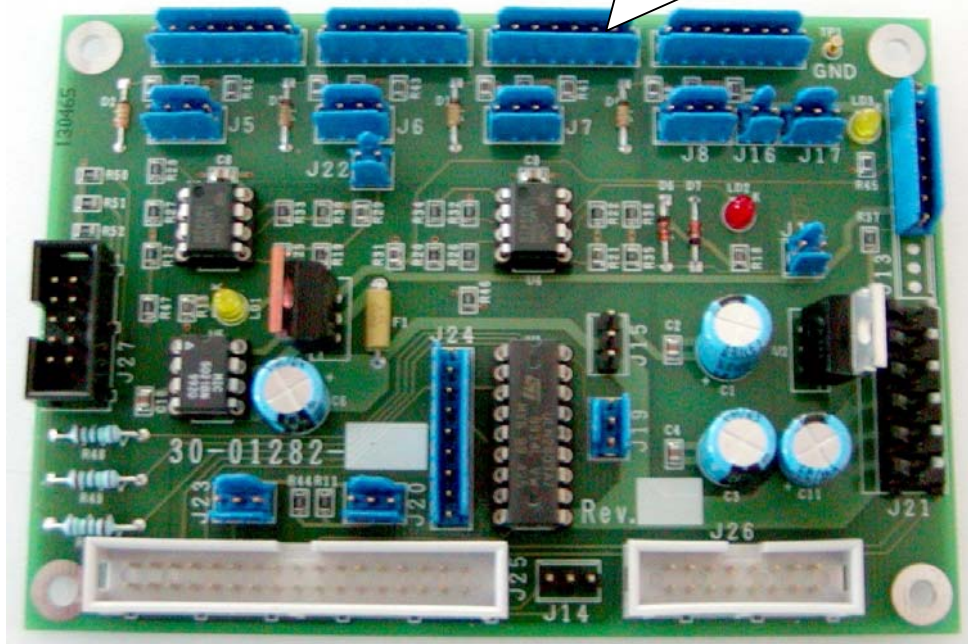

Fig. 88 Arm Interface board Cd. 30-01282-01
5. Unplug the J3 connector from the Sampling Interface Board. (Fig. 88).
5. Unscrew the two fastening screws (Fig. 84), unplug the J3 connector from the Sampling Interface Board (Fig. 88) and remove the Peristaltic Pump module from his housing.